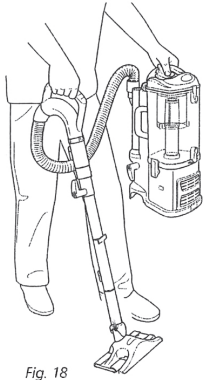

Fig. 18
- 2 Attach Dust-Away™ hard floor attachment onto the end of the extension wand. (Fig. 18)